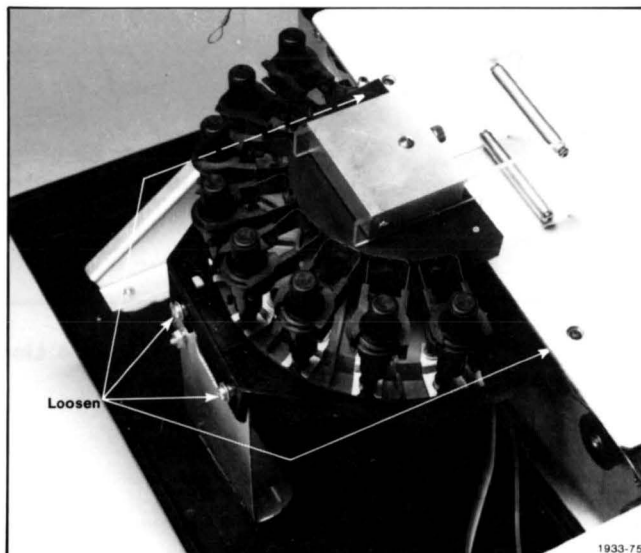

Figure 3-15. Option 31 Mechanism Securing Screw Locations.
3. **Loosen** (but do not remove) the four screws holding the Option 31 mechanism to the plotter (see Figure 3-15).